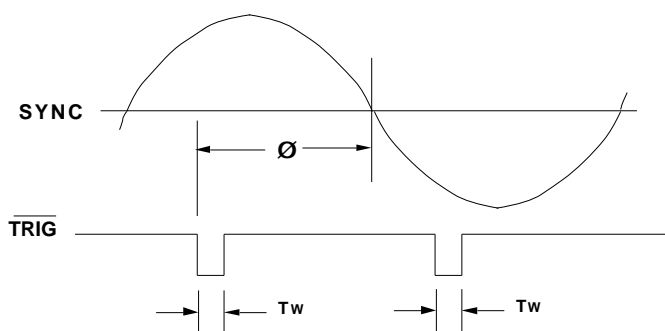

FIGURE 2.  $\overline{\text{TRIG}}$  OUTPUT CONDUCTION ANGLE,  $\emptyset$
LS7237 is a monolithic, MOS integrated circuit designed to control the brightness of an incandescent lamp. The output of the LS7237 triggers a triac connected in series with a lamp (See Figure 5). The lamp brightness is determined by controlling the output conduction angle (triac triggering angle) in relation to the AC line frequency (See Figure 2).
**TIMING CHARACTERISTICS** (See Figures 2 and 3):